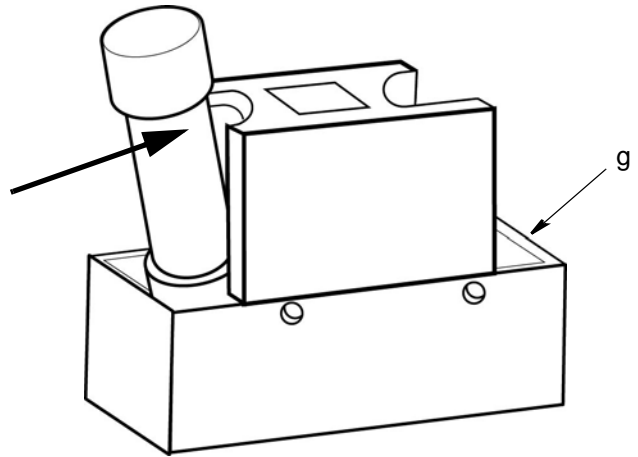

FIG. 10
- a. Insert the silver-capped end of fuse (17 or 18) into bottom of fuse box (g) as shown in FIG. 10.
- b. With the silver cap above the top of the fuse box, gently push the glass tube into fuse seat as shown in FIG. 10.